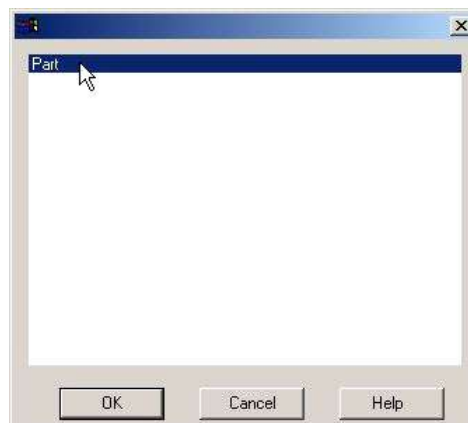

Figure 147: Selecting Dialog for Graphic Internal Product View
- 3) Select **Open viewer** if you want to display an external graphic. In both cases, the same dialog appears. *Please refer to the Figure 147.*